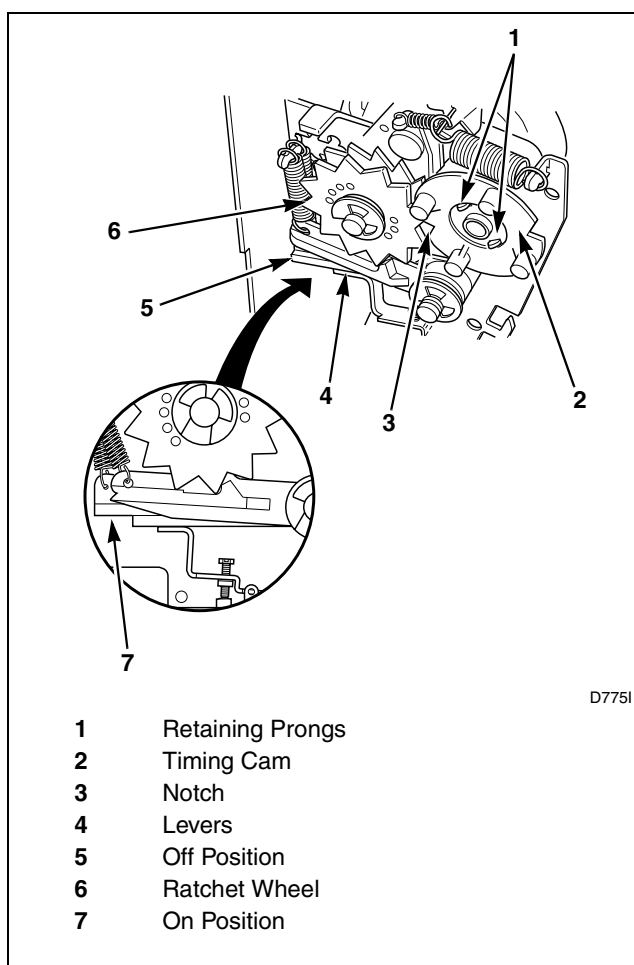

Figure 1
**NOTE: Adjust ratchet wheel and timing cam to "OFF" position prior to putting dryer into use. Refer to Figure 1 for proper position.**